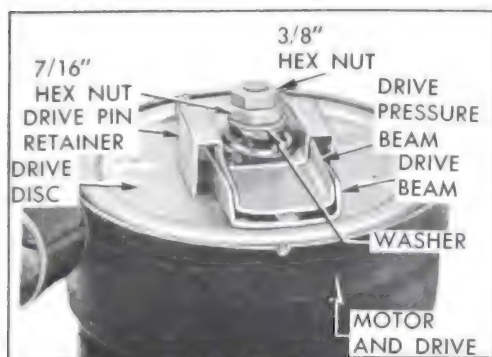

Figure 11-16—Antenna Drive
11. Hold the 7/16" hex nut on the output gear assembly shaft, remove the 3/8" hex nut (see Figure 11-16).